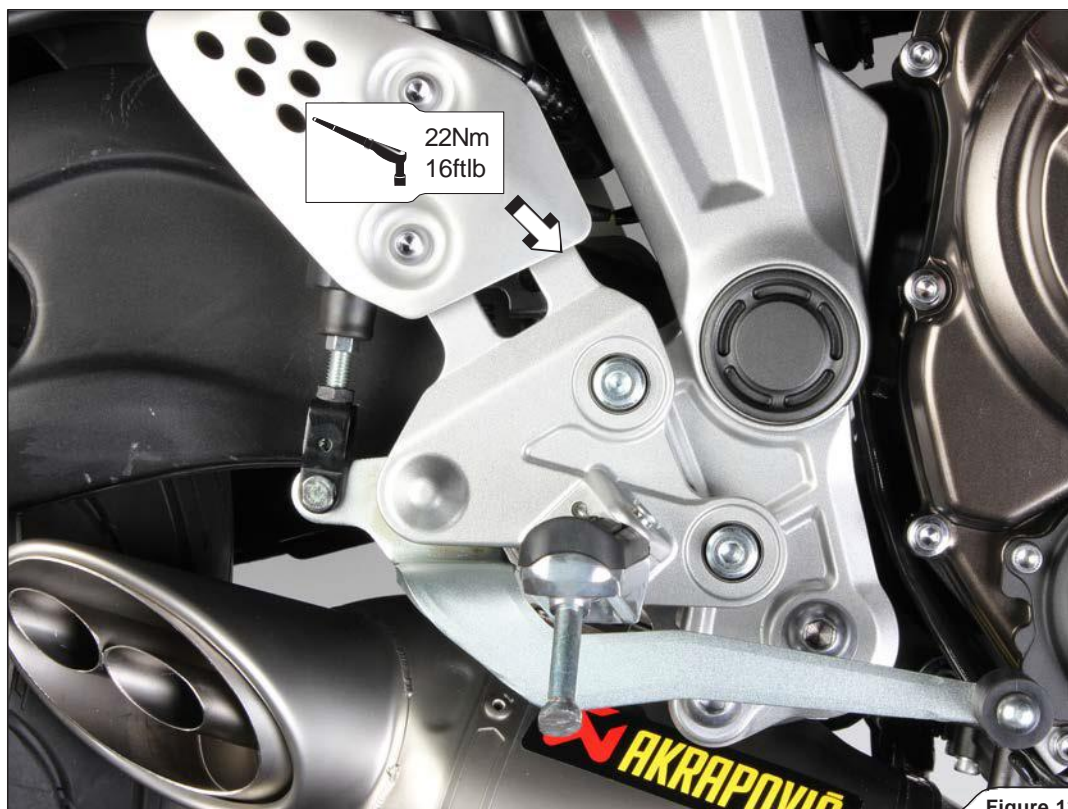

Figure 13
6. Reinstall the right footrest (Figure 13).